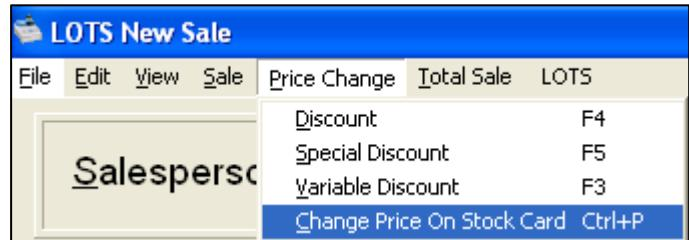

Figure 25
2. To permanently change the retail price of a stock card in the New Sale screen, select the product, modify the price and then select the Price Change drop down menu → Change Price On Stock Card (as shown in Figure 25).